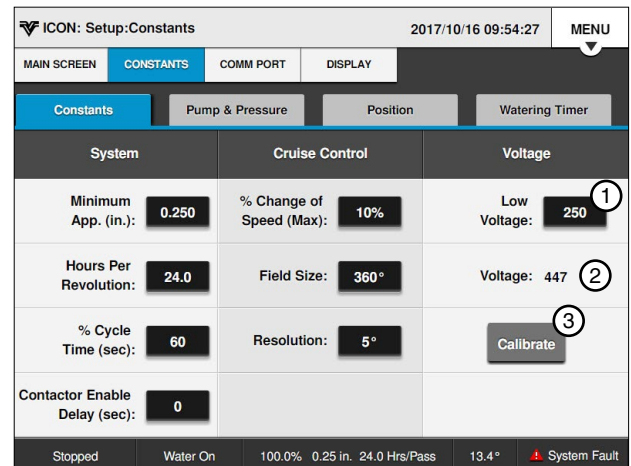

Figure 17-2 1. Low Voltage 2. Voltage 3. Calibrate
1. Push the **Menu, Setup, Constants, and System/Voltage** to display the System/Voltage screen. Refer to Figure 17-2.